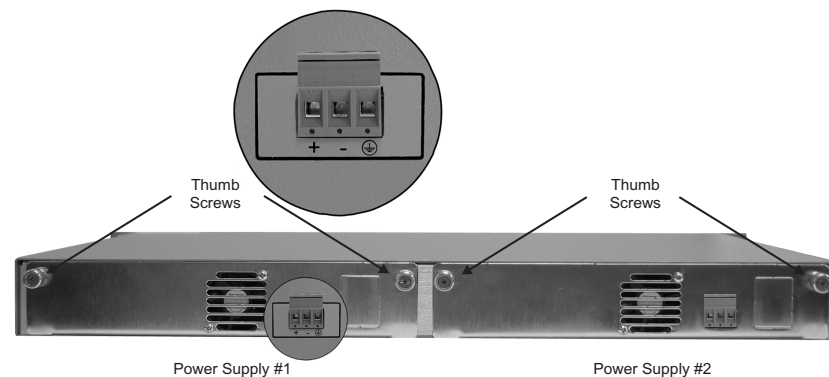

Fig. 6 5-Module Chassis with two Installed DC Power Supplies
- ☐ Using a screwdriver, loosen the 2 thumb screws securing the power supply to the main chassis (refer to Fig 6).